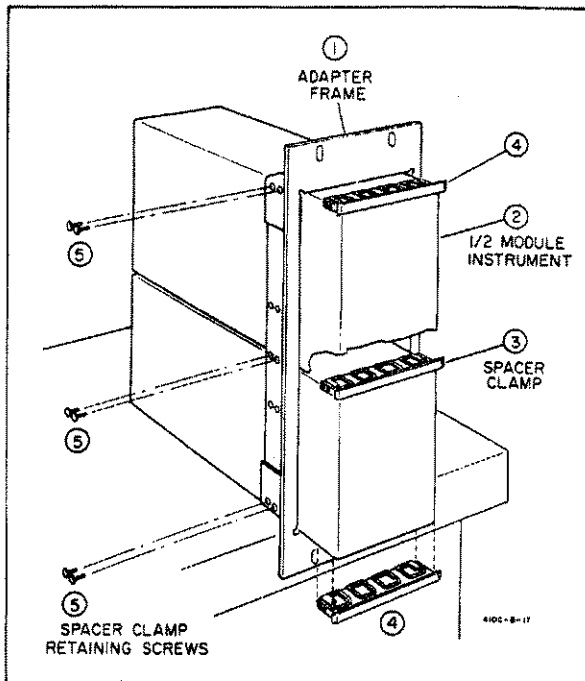

Figure 2-4. Two Half Modules in Rack Adapter.
a. Place the adapter frame on edge of bench as shown in step 1, Figure 2-4.
b. Stack the submodular units in the frame as shown in step 2, Figure 2-4. Place the spacer clamps between instruments as shown in step 3., Figure 2-4.
c. Place spacer clamps on the two end instruments (see step 4, Figure 2-4) and push the combination into the frame.